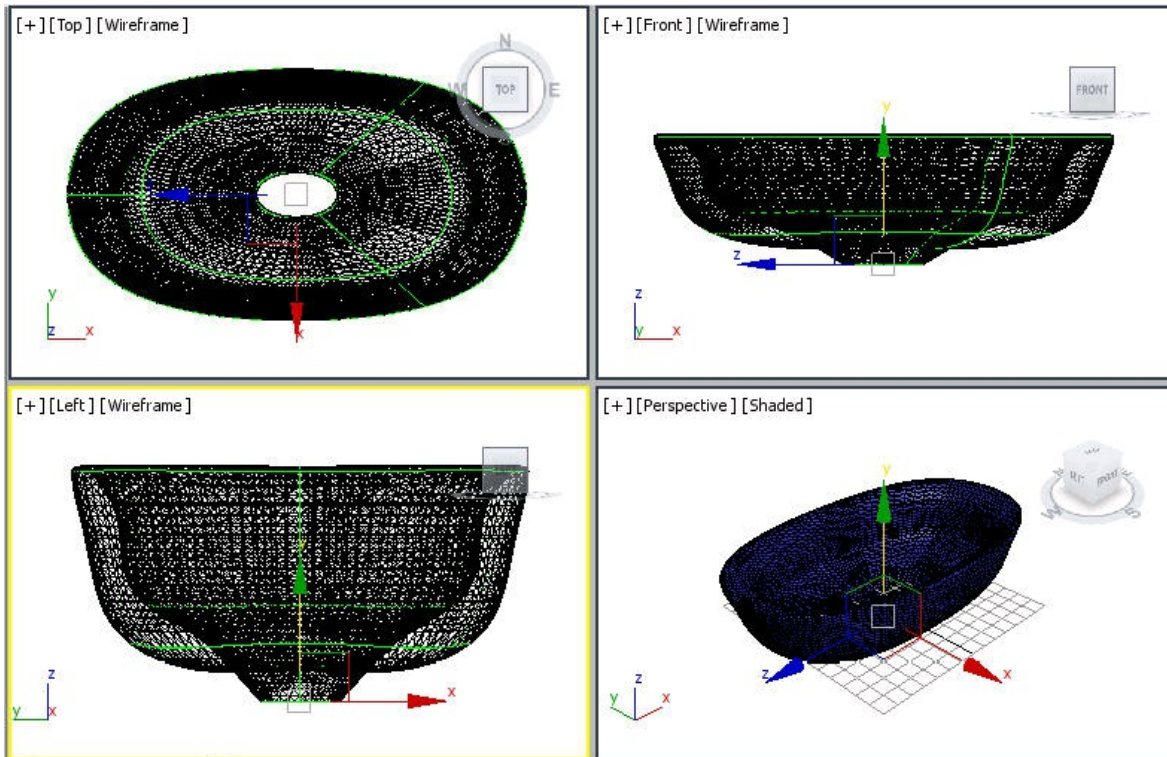

Figure 10-62 A NURBS surface created in viewports
3. In the **U Loft Surface** rollout, select the **Flip Normals** check box. Next, right-click to exit the U loft command; a NURBS surface is created in the viewports. Choose the **Zoom Extents All** tool. Figure 10-62 shows NURBS surface in the viewports.